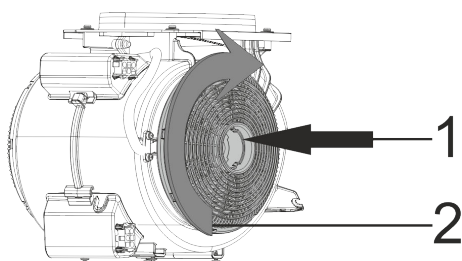

Fig. 5: CARBON FILTER
- 1-Place the carbon filter in its housing (Fig. 5).
- 2-Rotating the carbon filter clockwise, ensure that it is completely fit (Fig. 5).